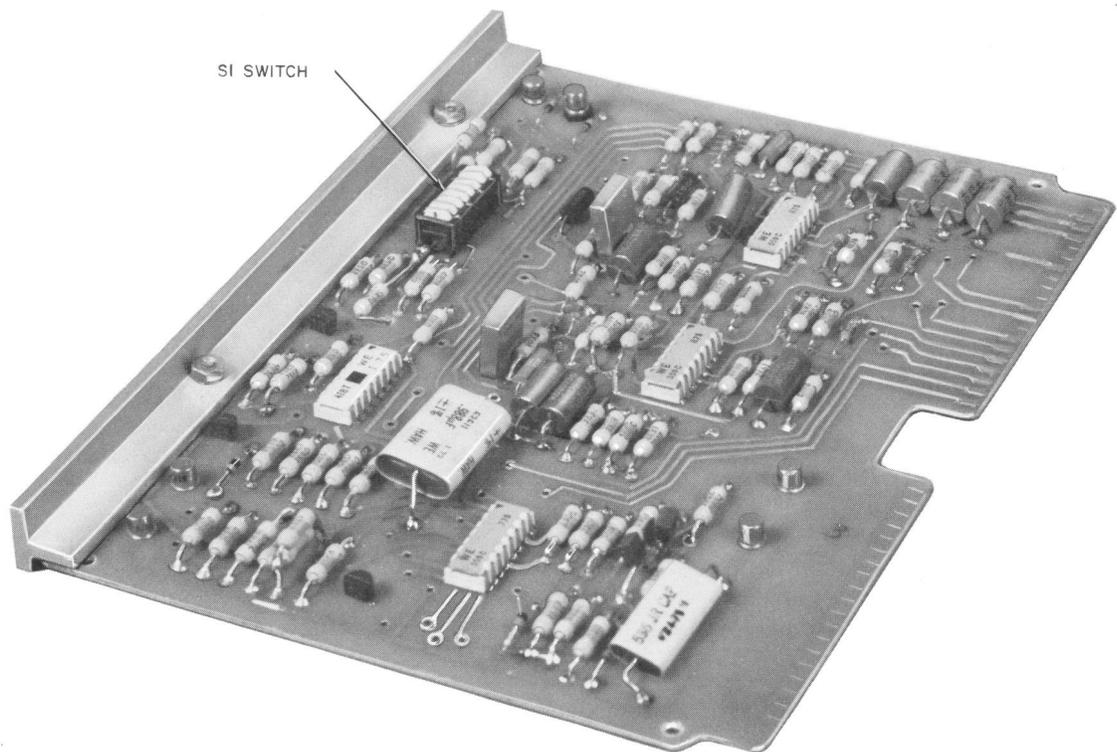

Fig. 10—HJ19 Amplifier and Tone Circuit Pack—Gain Adjustment Switch (S1)
- A gain adjustment is part of the HJ19 CP for adjusting the transmission gain to a maximum of 5.5 dB in 0.5-dB steps. The desired gain is obtained by selecting the open and closed positions of the contacts on the S1 switch per Table A. Fig. 10 shows the location of the gain adjustment switch (S1) on the HJ19 CP. When the rocker